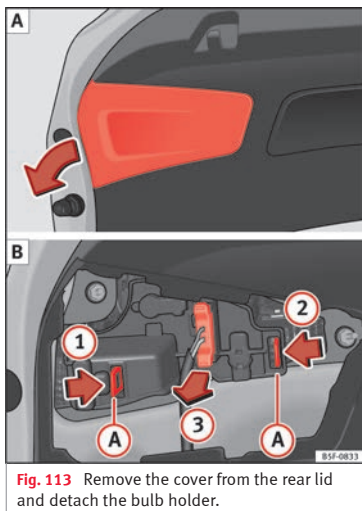

Fig. 113 Remove the cover from the rear lid and detach the bulb holder.
- Remove the rear lid cover in the direction indicated by the arrow » **Fig. 113 A**.
- Unlock the retaining tabs **A** of the bulb holder, following the direction of arrows **1** and **2** » **Fig. 113 B**.
- Remove the bulb holder by turning it in the direction of arrow **3** » **Fig. 113 B**.
- Reinstall the bulb holder making sure that locking clips **A** » **Fig. 113 B** are properly clipped.